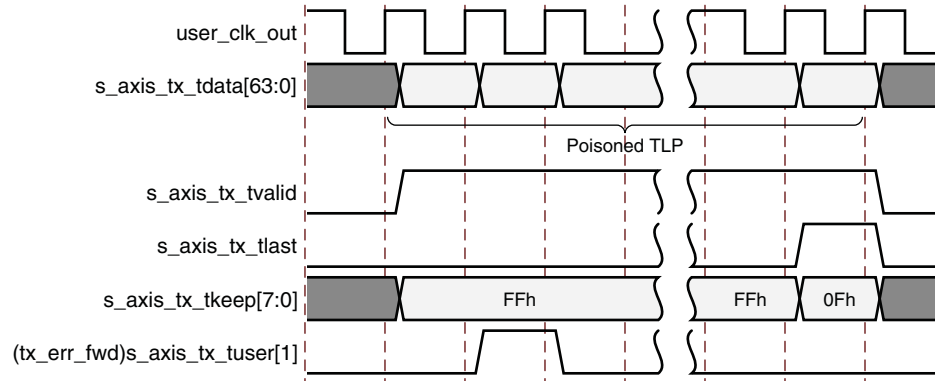

Figure 3-12: Packet Data Poisoning on the Transmit Interface
- Assert `s_axis_tx_tuser[1]` (`tx_err_fwd`) for at least one valid data transfer cycle any time during the packet transmission, as shown in Figure 3-12. This causes the core to set EP = 1 in the TLP header when it transmits the packet onto the PCI Express fabric. This mechanism can be used if the user application does not know whether a packet could be poisoned at the start of packet transmission. Use of `tx_err_fwd` is not supported for packets when `s_axis_tx_tuser[2]` (`tx_str`) is asserted (streamed transmit packets). In streaming mode, you can optionally discontinue the packet if it becomes corrupted. See Discontinuing Transmission of Transaction by Source for details on discontinuing packets.